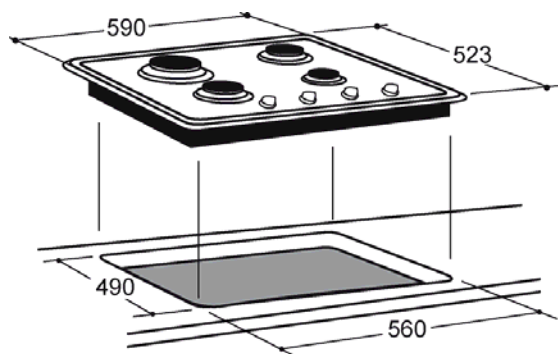

Fig. 7
1. Make the 490 x 560 [mm] rectangular cut-out in the worktop. The dimensions of the cut-out can be found in Fig. 7.